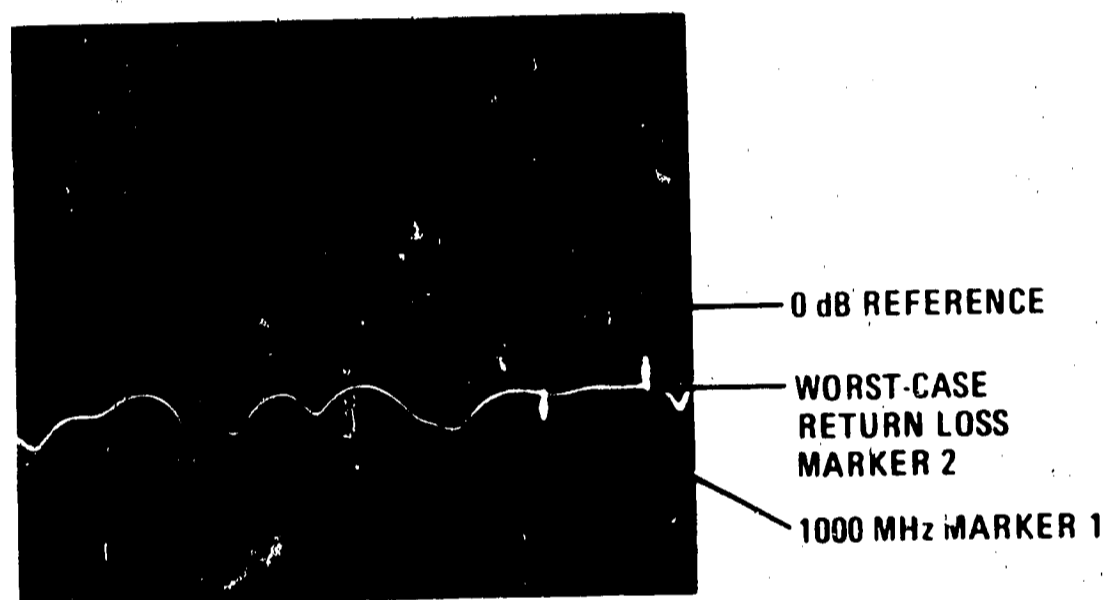

Figure 4-12. Port Return Loss (1000 - 1300 MHz)
- (1) Remove short and connect dual Directional Coupler directly to 8503B port R with all other 8503B ports terminated in their characteristic impedences.
- (2) Move 8505A Frequency Control MARKER 2 to worst-case return loss between 100 and 1300 MHz as indicated on CRT (the point closest to calibration line to the right of MARKER 1 as shown in Figure 4-12).